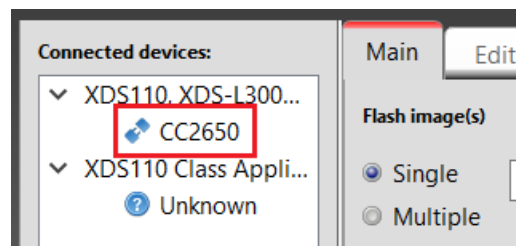

Figure 39, DEV-IN-BLE-TI device connected to the SmartRF Flash Programmer 2
- 5) Connect the Debugger Dev pack to the DEV-IN-BLE-TI PCB. The connected devices list should update to read “CC2650” (Figure 39)